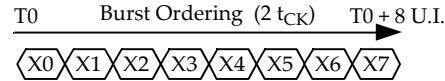

Figure 13 — EDC Calculation Matrix (Step 2)
- Step 2: the ATM-8 HEC, $X^8+X^2+X^1+1$, CRC polynomial calculates an 8-bit checksum as shown in Figure 13. The starting seed value is set to 0 in hardware. The bit order is optimized for errors in the time burst direction. All 1s are assumed in the calculation for the DBI_n pin when DBI is disabled for writes or reads in the mode register.